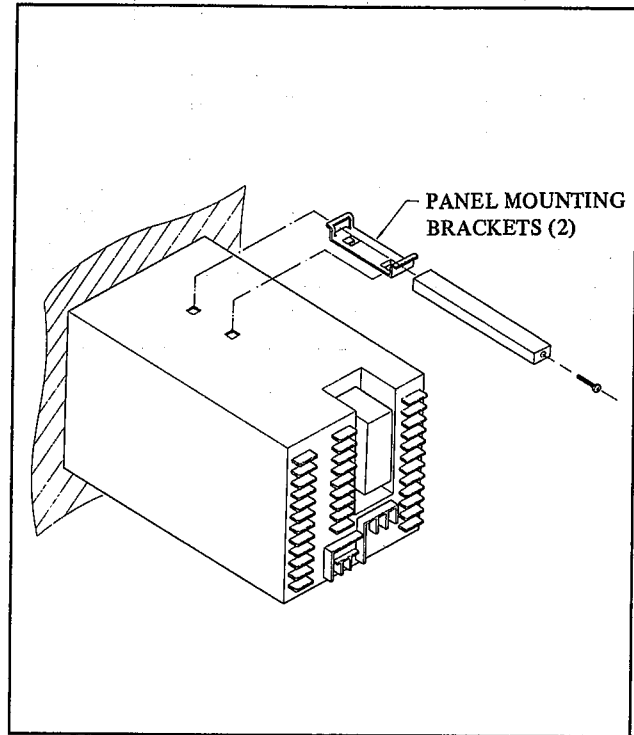

Fig. 2 Installation Method
(2) Installation Method (See Fig. 2)